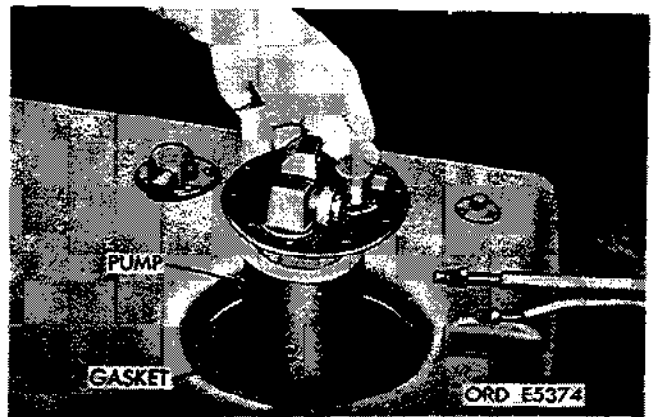

Figure 2-109. Remove pump and gasket (M151, M151A1, M151A1C, and M718).
(3) Lift fuel pump or fuel tank cover out of tank. Removal and discard gasket (fig. 2-109).
b. Installation. Clean gasket surfaces on fuel pump (M151, M151A1, M151A1C, and M718) or fuel tank cover (M151A2, M825, and M718A1), and fuel tank before installing pump or cover and gasket. Install pump or cover by reversing removal operations (3) back to (1). Refer to figures 2-109 and 2-108.
(1) Disconnect tube at carburetor.
(2) Using a pressure gage, hold tapered adapter to fuel tube.
(3) Start engine. Engine should normally operate due to sufficient fuel in carburetor. If engine does not start, continue operating starter until maximum reading on pressure gage is obtained. Correct pressure is from 4.9 to 5.4 psi. If pressure is incorrect, replace fuel pump.
(4) Recheck pressure and connect fuel tube.